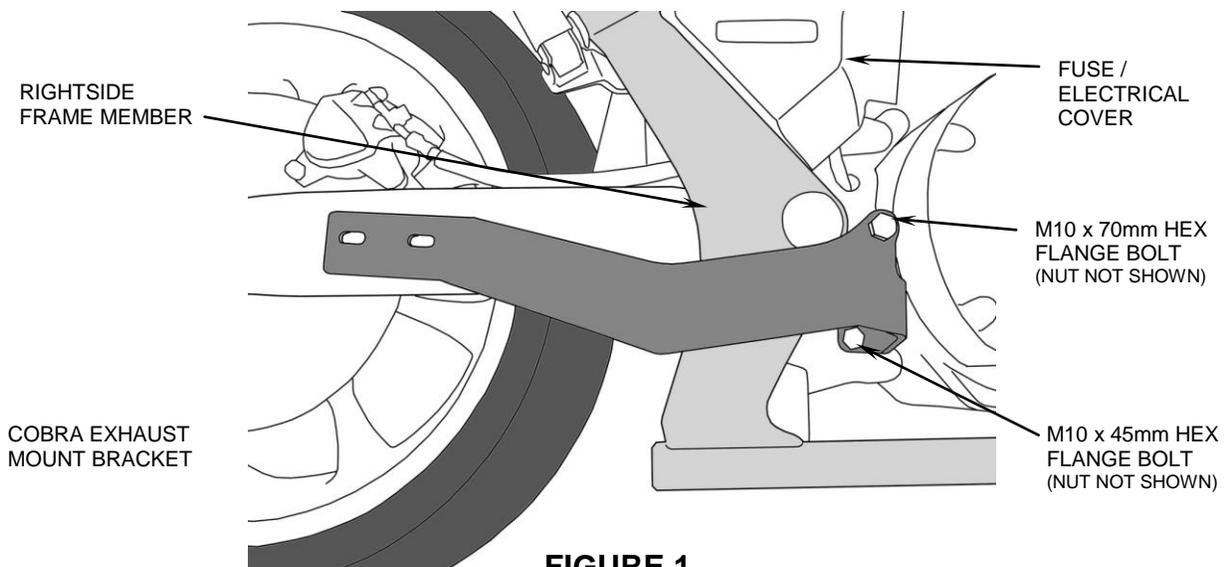

FIGURE 1
1. Remove your stock exhaust system and stock exhaust mount. Save the (4) acorn nuts that attach the headpipes to the cylinders for later use during installation.
2. Install exhaust mounting bracket onto outside of frame, where stock mounting bolts were removed, by inserting the supplied M10 x 70 mm bolt into the top mounting hole and the shorter M10 x 45 mm into the lower and thru the frame, see Figure 1. Start threading the supplied M10 Nylock nut onto lower and upper bolts but **DO NOT FULLY TIGHTEN**.